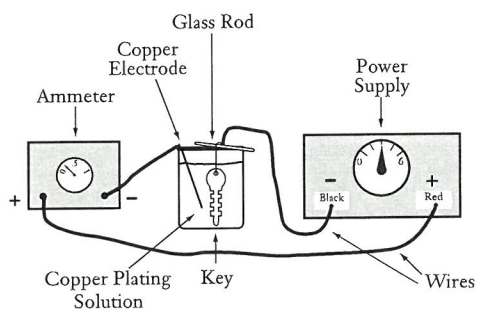

Figure 2.
- Place the copper electrode into the beaker. Bend the copper strip to fit over the top of the beaker (see Figure 2).